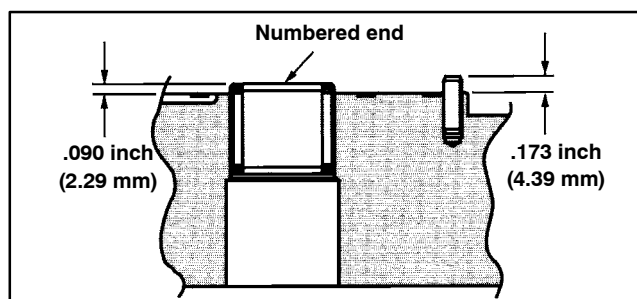

Figure 58
A. Check the bearing (45) (press fit) in backplate (20). If needles remain in cage, move freely, and setting is at the dimension shown in Figure 58, bearing removal is not required.
B. Check roll pin (38) in backplate (20). If tight and set to the dimension shown in Figure 58, removal not required.
5. Install new seal washer (4), washer (29), and jam nut (1) to servo piston bolt. Holding servo piston bolt with hex key wrench, torque jam nut from 150 to 160 in-lb (17 to 18 N-m). Check the centering of servo piston assembly (7). Install new cover plate gasket (33) and cover plate (9) to open side of servo piston and retain with four washers (31) and socket head screws (5). Torque screws from 40 to 48 in-lb (4.5 to 5.4 N-m).
6. Press dowel bushings (40) into cradle and secure bushing (44) onto cradle with button head cap screw (43). Torque button head cap screw from 14 to 16 in-lb (1.6 to 1.8 N-m).
7. Place cradle sub-assembly (41) into housing (19) making sure dowel bushings (40) and cradle (41) are completely seated into housing. Retain cradle sub-assembly with two cap screws (42) after applying Loctite #277 (or equivalent) to the end of threads. Torque cap screws from 25 to 28 ft-lb (34 to 38 N-m).
8. Place exterior retaining ring (3), thrust race (12), thrust bearing (13), second thrust race (12), and second retaining ring (3) onto drive shaft (21). Position washer (24) and shaft seal (25) onto shaft.
9. Install shaft assembly into front of housing. Seat seal (25) into position with seal driver and retain with interior retaining ring (2).
10. Install servo piston follower (8) onto camplate dowel pin. Install camplate (11) carefully onto bushing (44) (coat bushing surface with hydraulic oil), aligning servo piston follower (8) with slot in servo piston assembly (7).
11. Position housing in a horizontal position. Holding camplate (11) in position with screw driver through controller linkage passageway at the top of housing, place rotating kit assembly (6) over shaft and into housing until pistons are against camplate (11). Make sure all parts are in housing completely and are properly positioned. Return the pump to the vise with open end of housing up, clamping housing on the outer portion of the flange.
12. Install gasket (32) onto housing.
13. If necessary, press new bearing (45) and roll pin (38) in backplate (20) to dimension shown in Figure 58. Note: Bearing should be installed with the numbered end outward. Roll pin should be installed with split oriented away from bearing.